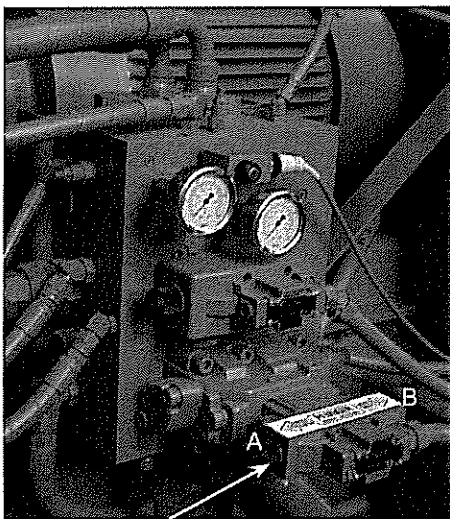

Fig. 34 Plunger directional control valve
3. **RETRACT CYLINDER ≈ 6 IN** Press the solenoid A button on the plunger directional control valve (fig. 34) until the plunger retracts by about 6 inches.